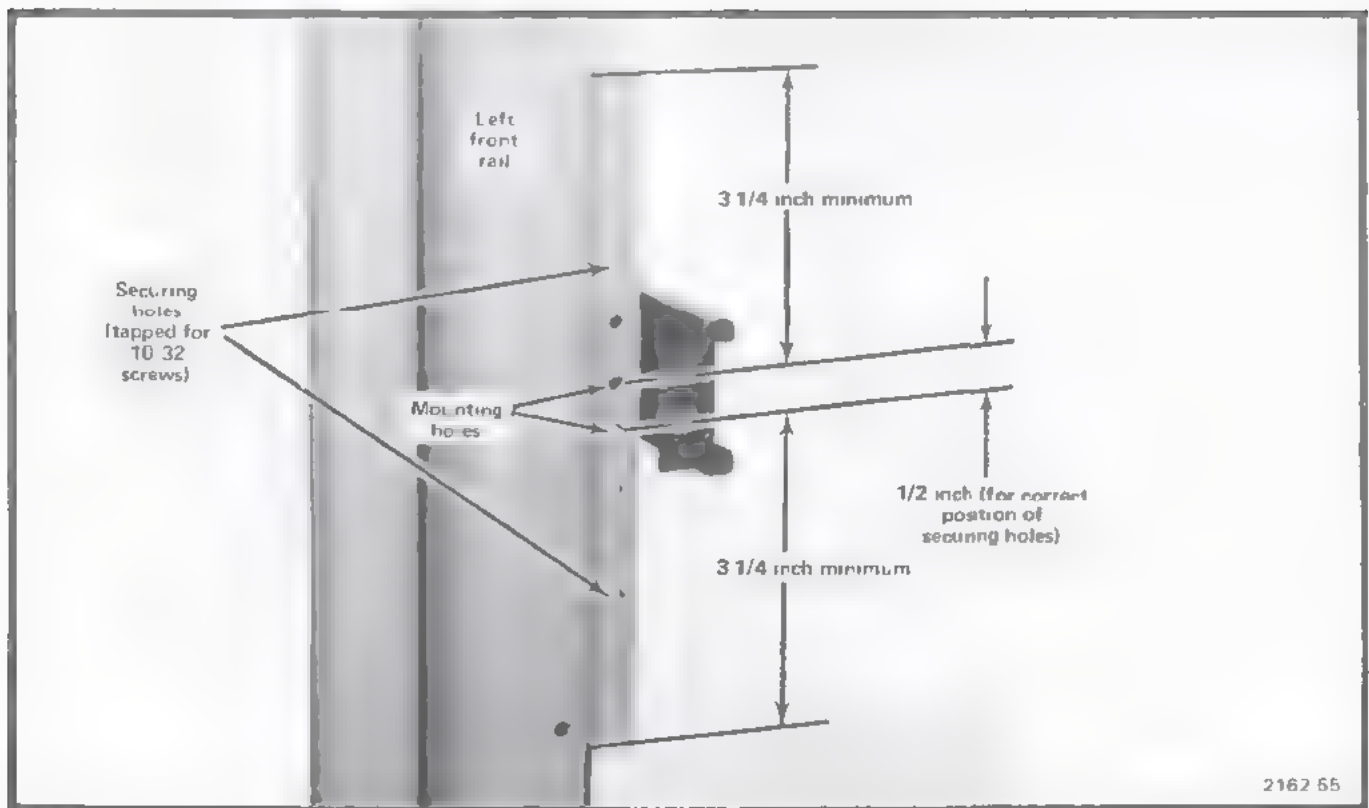

Figure 2-15. Locating the mounting holes for the left stationary section. Same dimensions apply to right stationary section.
1. Select the proper front-rail mounting holes for the stationary section using the measurements shown in Figure 2-15